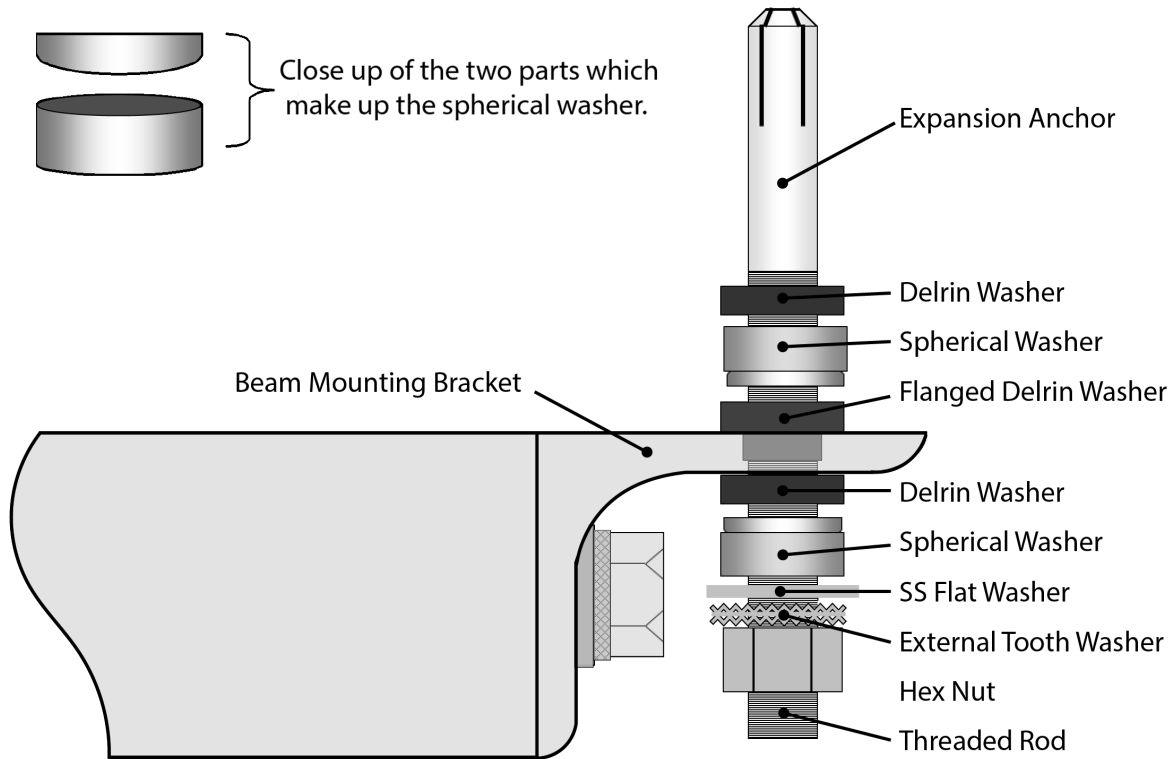

Figure 5 - Mounting Hardware
- 9) Attach the beam to the mounting surface by arranging the mounting hardware as shown in Figure 5. Use thread locking cement if desired.